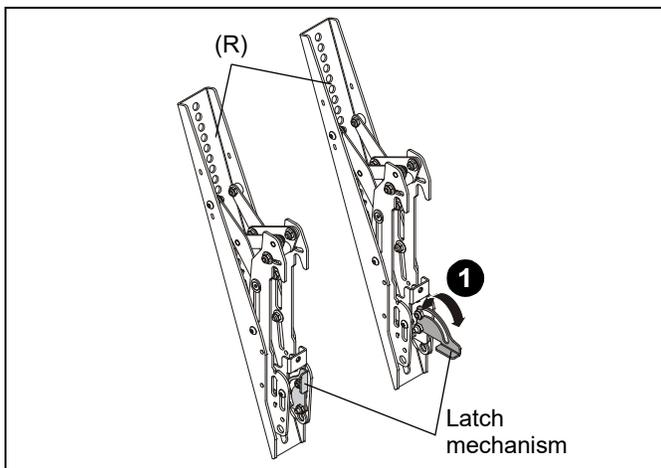

Figure 25
1. Lower the latch mechanism on each interface bracket (R). (See Figure 25)
1. Ensure that the latch mechanisms on interface brackets (R) are already lowered. (See Figure 25)